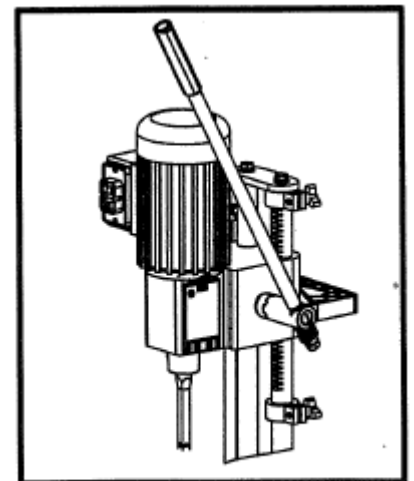

Fig.2
2. Lift the head using the hand lever. If necessary, index the lever (Fig. 2) to make multiple turns of the hub so the head moves to its highest elevation. Be sure to position the depth stop rod so that it touches the base of the machine and lock it in place before indexing the handle. This ensures the weight of the head casting is supported while adjustments are made.